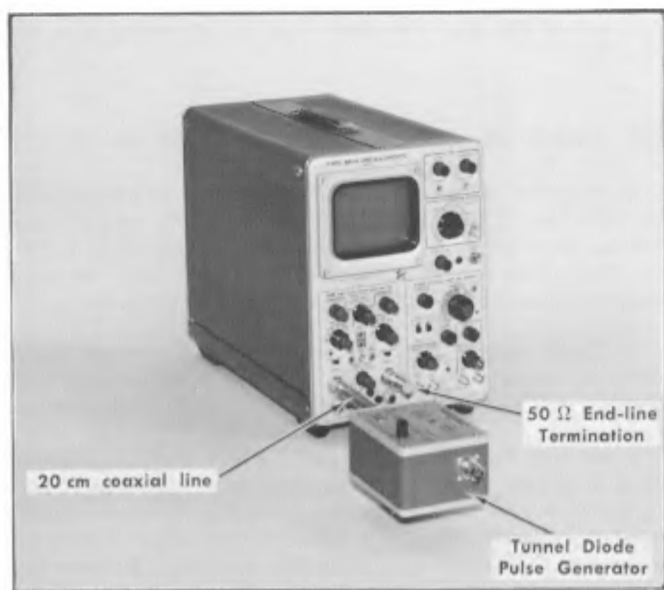
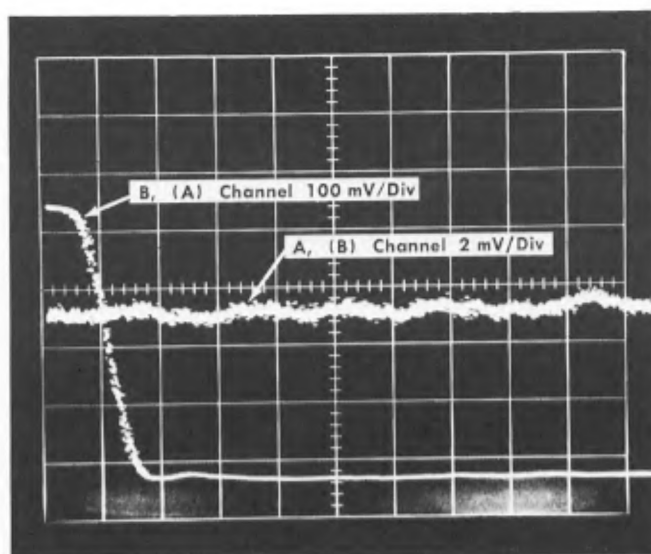

Fig. 8-30. Equipment and connections for Step 26.
Fig. 8-31. Interchannel crosstalk waveforms. Step 26.
B POSITION	Trace as in Fig. 8-31
Display as in Fig. 8-31
a. Make the connections and control settings listed under Fig. 8-30. It may be necessary to adjust the Channel A DC OFFSET control to position the display correctly. Adjust the Timing Unit Trigger Sensitivity control for a stable display. The Tunnel Diode Pulse Generator negative pulse and Channel B trace should both be visible, similar to Fig. 8-31.